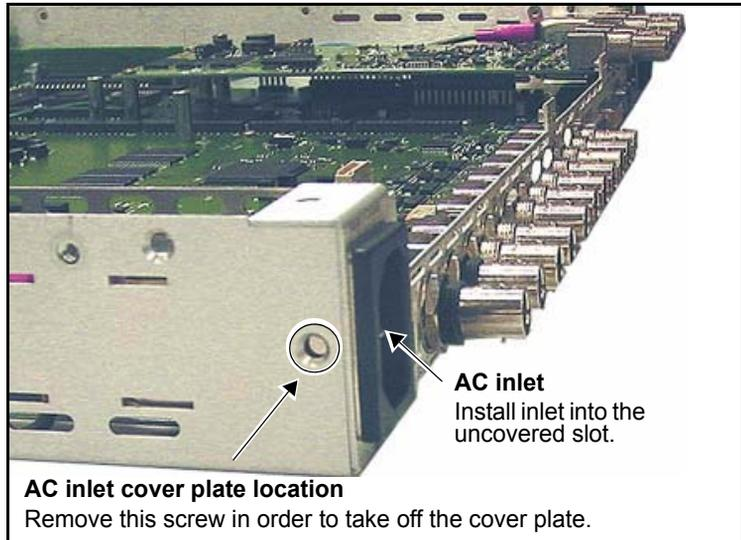

Figure C-50. Removing Cover Plate and Installing AC Inlet
6. Take off the AC inlet cover plate by removing the inlet cover screw on the chassis side, and then install the new AC inlet into the slot. (See Figure C-50 on page 367.)